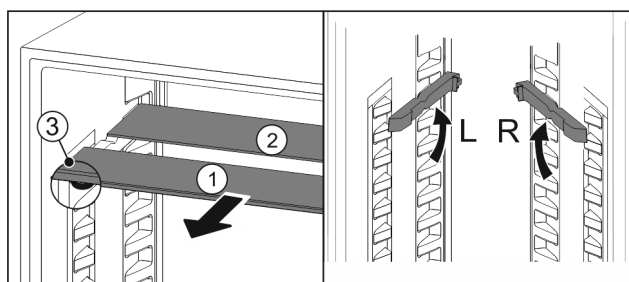

Fig. 20
- Pull the glass panels out Fig. 20 (1) from the front, one at a time.
- ▷ The glass panel Fig. 20 (1) with the trim strip is at the front.
- ▷ The stops Fig. 20 (3) point downward.